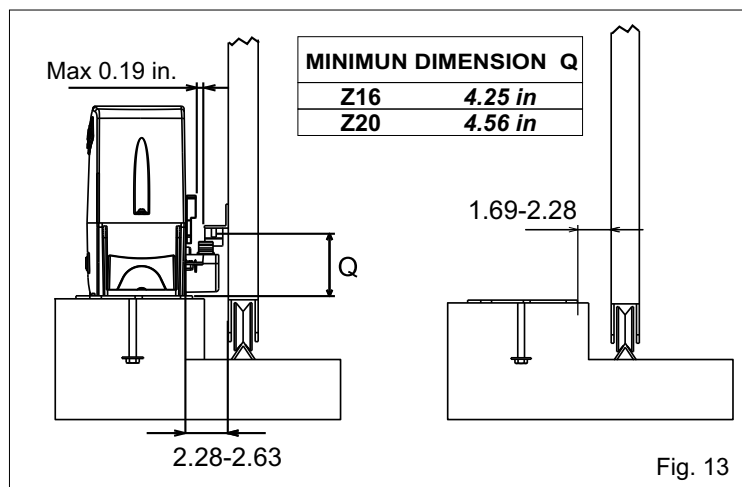
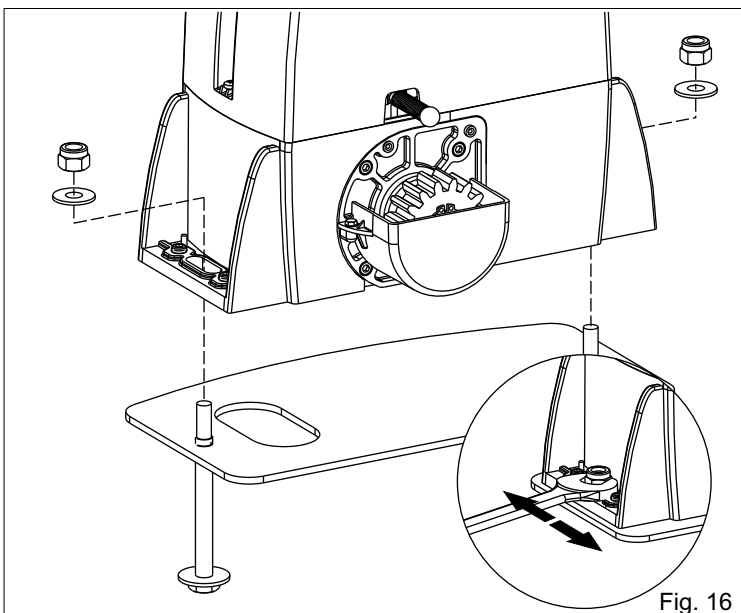

Fig. 13
Fig. 16
4.3. Before concreting in the plate, make sure that it is perfectly leveled and that the distance of 2,28-2,63 in. as shown in Fig. 13 is respected.
6.2. Fix the motor reducer to the foundation plate with the 2 included nuts, adjusting the side position (Fig. 16) so to respect the shown quota in (Fig. 13).